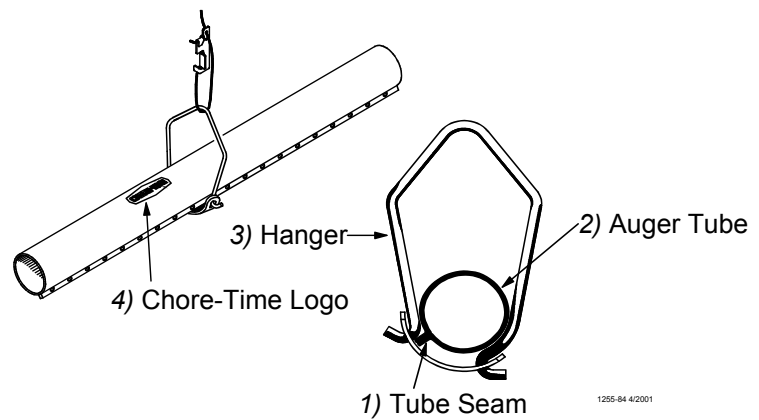

Figure 35. Hanger Installation
3. To achieve total feed drop out all along the system, the Chore-Time Logo should be centered at the crown of the tubes and all the Hangers should be installed as shown in **Figure 35**.
5. Install the Hangers on the feed line tube at the 8' [2.4 m] spacings determined by the suspension drop lines. **Figures 35 and 38** show the proper installation of the Hanger Assembly. Make sure the outlet drop hole is downward when the Hangers are installed, otherwise feed will not be allowed to drop into the feeder pan.